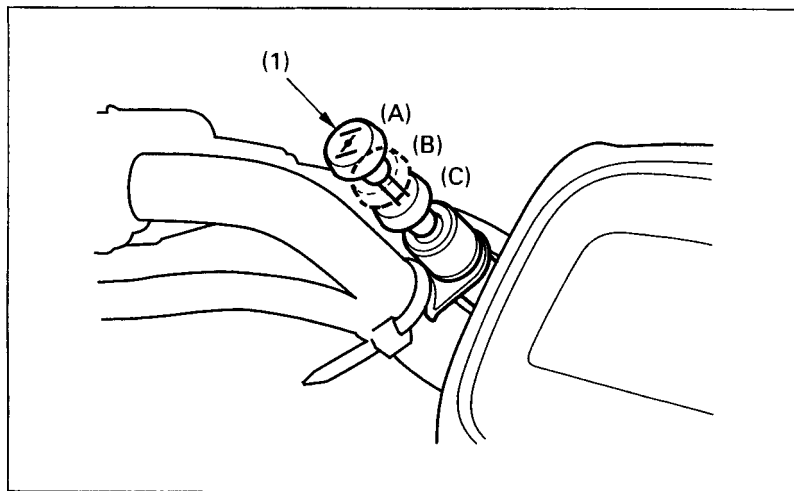

Fig. 2-7
The choke knob (Fig. 2-7) is located above the indicator lamp. The choke has three positions: fully ON (A), halfway position (B), and fully OFF (C).